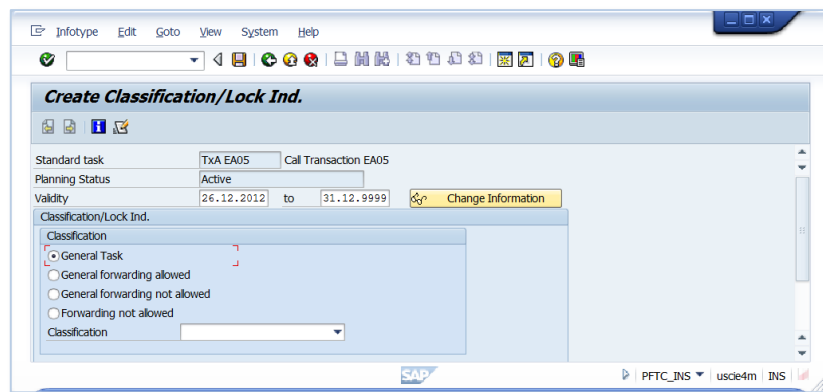

Figure 6-64 Classification of Workflow Task as *General Task*
Step 9: Choose *Additional Data* → *Classification* → *Create* and select *General Task* to allow a direct execution of the workflow task without any specific agent assignment. This means that all agents can execute the workflow task. Push the  button to save the classification (see Figure 6-64).